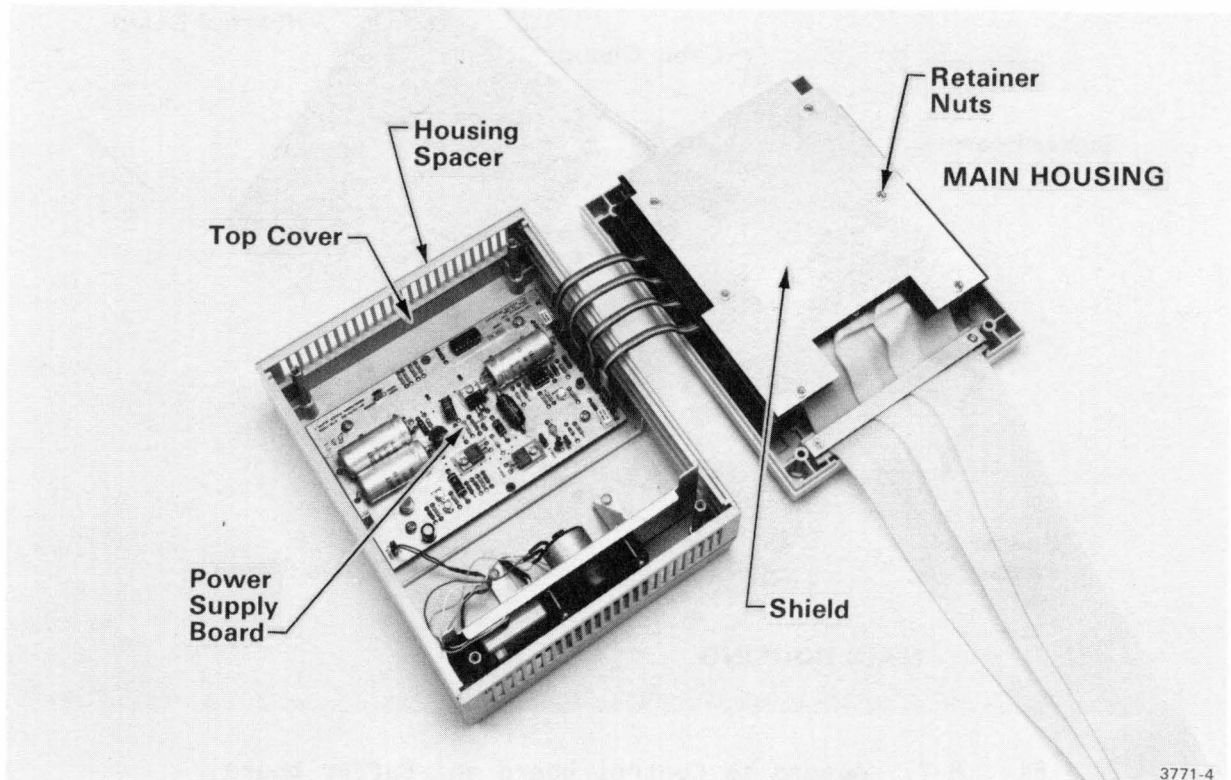

Fig. 8-6. Access to Power Supply board.
3. Remove the top cover of the Interface Assembly and set it beside the main housing (see Fig. 8-6).
4. Lift the housing spacer and rotate it to set on the top cover (see Fig. 8-6).